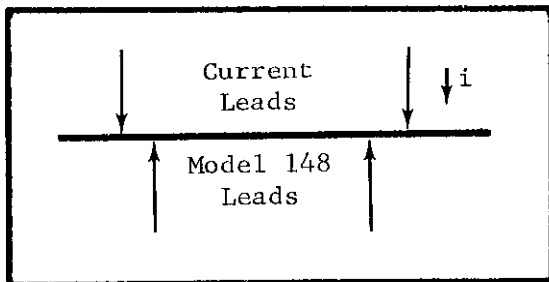

FIGURE 9. Using Model 148 with 4-Terminal Connections.
b. Four-terminal connections can often be used to eliminate this error. Refer to Figure 9.